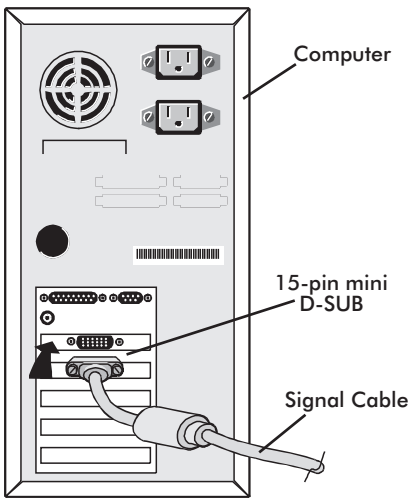
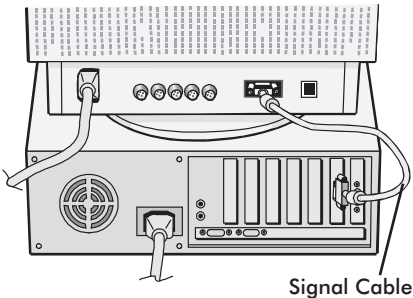

Figure A.1
Figure A.2
2. **For the PC:** Connect one end of the 15-pin mini D-SUB signal cable to the connector of the display card in your system (Figure A.1) and the other end to the back of the monitor (Figure A.2). Tighten all screws. Proceed to Step 4.